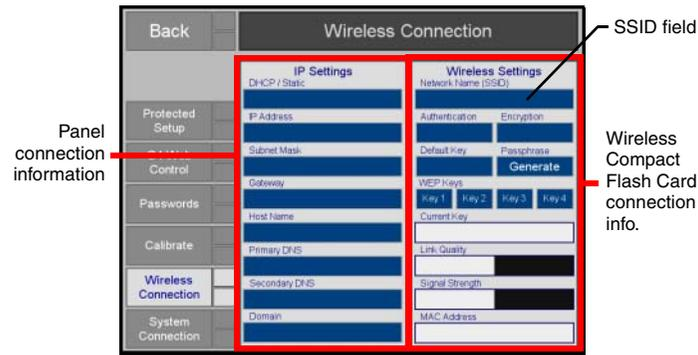

FIG. 3 Wireless Connection page (MVP wireless connectivity page)
8. From the Setup > Protected Setup page, touch the **Wireless Connection** button to open the Wireless Connection page (FIG. 3).
3. Touch the **Network Name (SSID)** field (FIG. 3).